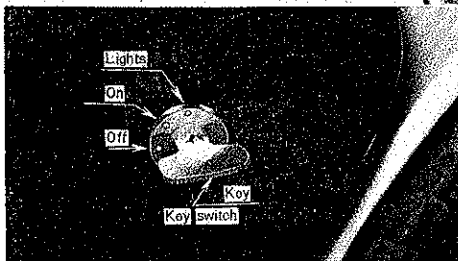

Fig. 3
- (3) Turn key to "on" position. (Fig. 3)
- (4) Close the throttle grip.
- (5) Check neutral gear light on speedometer.
- (6) Kick the kick pedal (equipped with new kick system)
- (7) After the engine starts, idle at low speed for 2 minutes before driving.
- (8) Caution: Don't forget to return the starter lever to the crusing position, after the engine has warmed up.
- (9) The motorcycle is now ready to be driven.